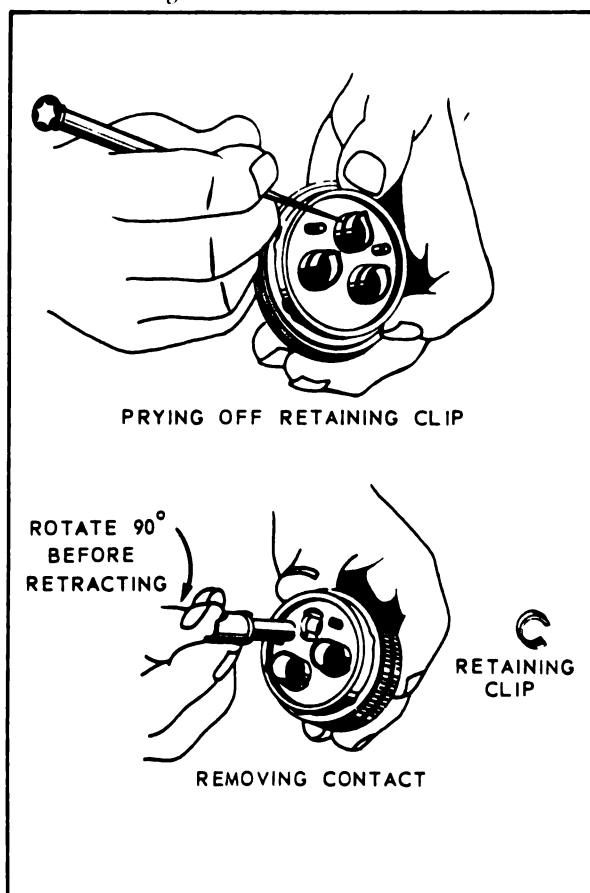

Figure 3-19. Removal of Cannon Clip Held Contacts
- Cannon spring clip contacts (see figure 3-19) are removed by prying off the clip with a small screw driver or scribe. Rotate contact 90° and lift out.